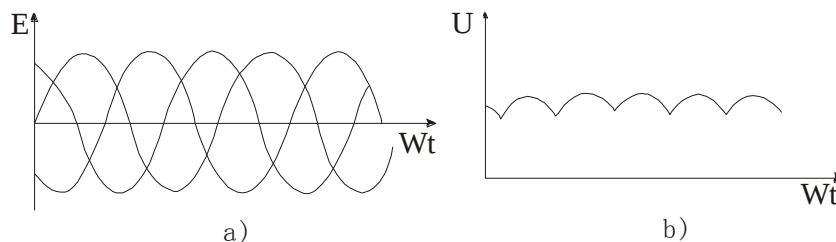

Fig.12-18 Voltage Waveform of Generator
(2)Rectifying principles of rectifier Three-phase bridge rectifier circuit formed by VD₁, VD₃, VD₅ and VD₂, VD₄, VD₆ rectifies three-phase AC electromotive force into an output direct current to the electric equipment and battery (Fig. 12-18), the three-phase bridge rectifier circuit composed of VD₇, VD₈, VD₉ and VD₂, VD₄, VD₆ is mainly used to provide the exciting current for field winding of generator.